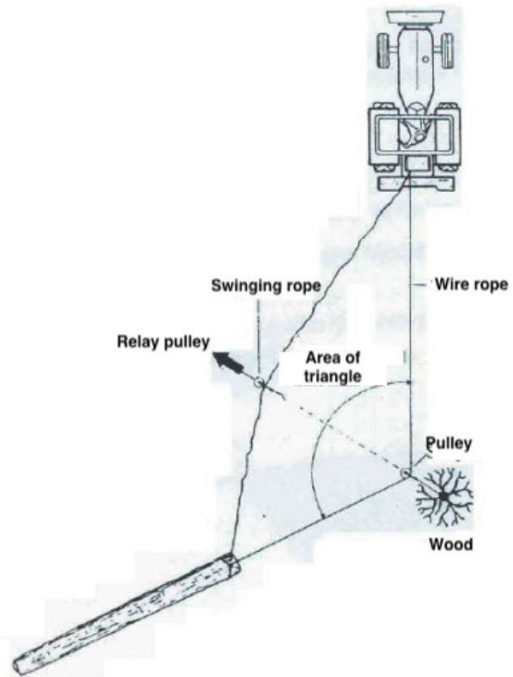

Figure 7
35. During pulling, it is forbidden to stand between the load and the winch and in the danger zone between the winch, relay pulley and load. (See figure 7).